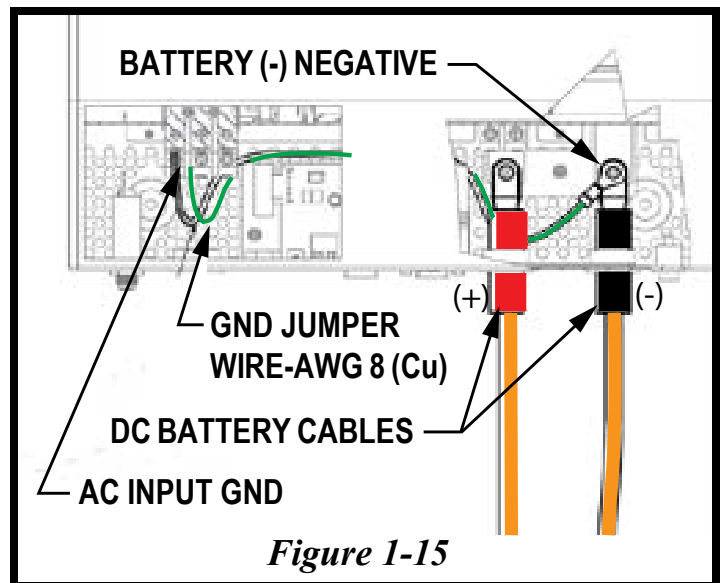

Figure 1-15
8. The first connection to make is the ground. Proper grounding can prevent electric shock for those working around electricity and electrical devices. Electricity always travels from voltage to ground. Having this dedicated connection from your electrical device to ground is a key safety concern before connecting any lines that carry voltage. (See Figure 1-15)